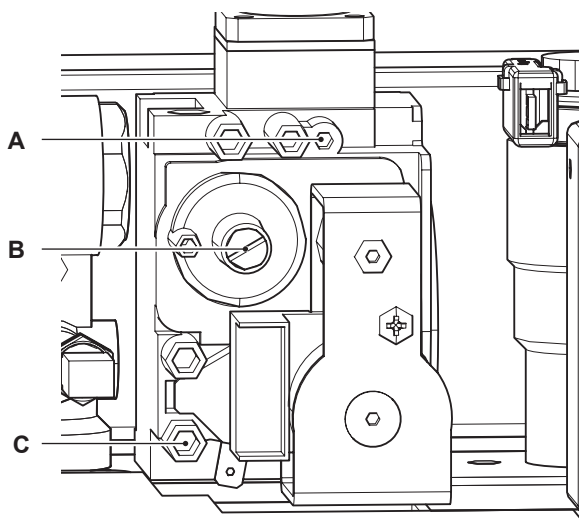

Figure 15.16
- With the boiler shut off (out of service), check the supply pressure at point C in Figure 15.16 and compare the read value with the value in the Gas supply pressure table in the section “Technical Information” pag. 9.
- Carefully reclose the tapping point C in Figure 15.16.
- To calibrate the boiler  $\text{CO}_2$  (burner gas pressure) completely unscrew the protective brass cap B and turn the Allen screw  $\varnothing$  4 mm below Figure 15.16, turning it clockwise increases the  $\text{CO}_2$ .
- If the two values do not coincide, turn the RQ maximum adjustment screw (A in Figure 15.16) on the gas valve and calibrate the  $\text{CO}_2$  to the same value shown in the table in the section "Technical Information" page 9. Turning it clockwise decreases the  $\text{CO}_2$ .